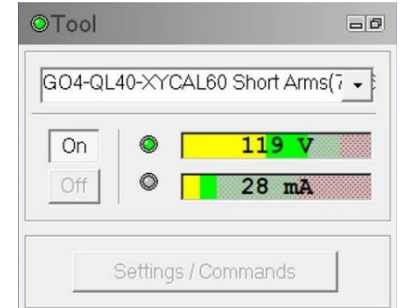
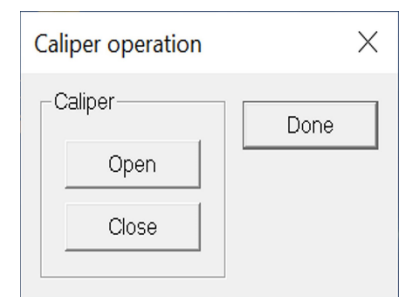

Figure 4-1.1 Tool panel
Figure 4-1.4 Caliper Operation
2. Select the relevant QL40-XYCAL60 tool/stack from the drop-down list (Figure 4-1.1) in the software's **Tool** panel (if your tool is not listed check that your tool configurations file is stored in the designated folder on your computer using the *Logger Settings* application).
5. On the **Tool** panel (Figure 4-1.1) click the **Settings / Commands** button and open the caliper arms from the **Caliper operations** dialog box (Figure 4-1.4).
10. On the **Tool** panel (Figure 4-1.1) click the **Settings / Commands** button and close the caliper arms from the **Caliper operations** dialog box (Figure 4-1.4).